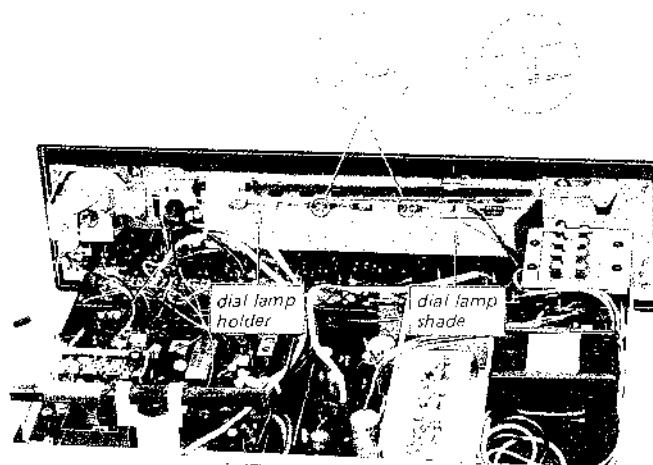

Fig. 2-13. Dial lamp replacement
1. Straighten the tub of the dial lamp shade to permit removal of 3-p lamp holder as shown in Fig. 2-13. This frees dial lamp holder.
1. Remove the nylon rivets securing the defective component by pushing its end with a tweezers as shown in Fig. 2-13.